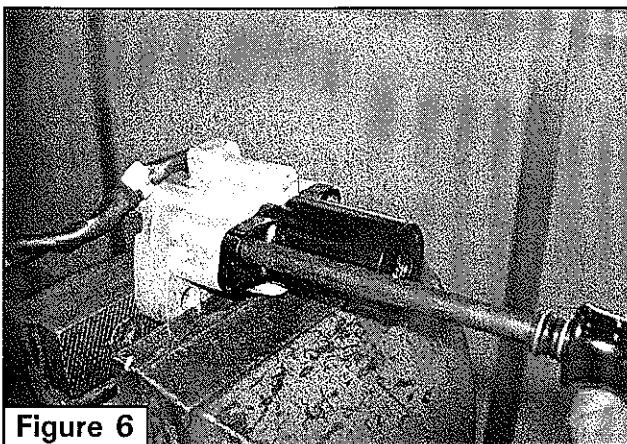
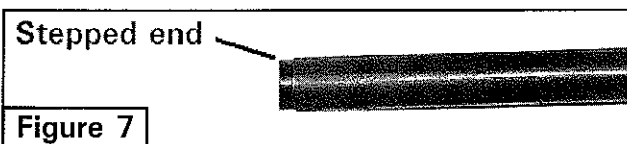

Figure 6
Figure 7
3. Secure the mount area (bottom) of the ignition switch in a vise (Figure 6).
TOOL Remove the two "break-off" screws from the ignition switch using the special screwdriver. Set the stepped end of the sleeve on the special screwdriver facing toward the "break-off" screws (Figure 7). Strike the special screwdriver 5 to 7 times with a hammer to produce a deep enough groove on the screw head for the screwdriver to work properly (Figure 6). Pay attention not to hit other parts with the hammer. Turn to remove the "break-off" screws in a counter-clockwise direction. If the groove becomes damaged, make another groove at a 90° angle to the original groove.